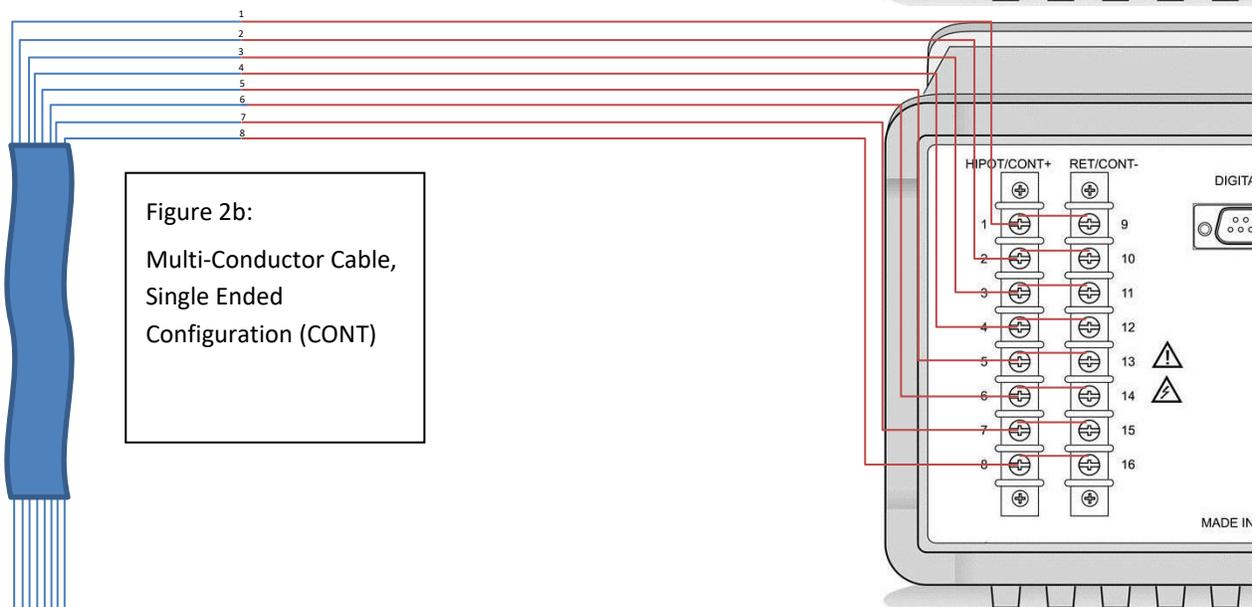

Figure 2b:
- The user can perform CONT testing of any one or more conductors to the remaining conductors (or a division of remaining conductors), with the other end of the cable shorted together (as shown in Figure 2b), using the CONT SUB TYPE and setting the switches accordingly (e.g. closing CONT+ Relay 1 and CONT- Relay 10) prior to running a CONT test step.
STEP #3: TYPE:HOLD, TIMEOUT:No Timeout, MSG 1: Short conductors at other end (as shown in figure 2b)
Wires now configured as in Figure 2b